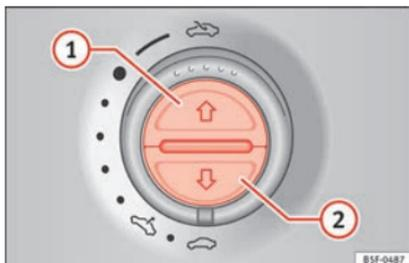

Fig. 138 On the interior roof lining: switches for the sun blind.
Opening completely (automatic function)	Press button » Fig. 138 ① briefly.
- The switch should be in the “closed position” » **📖** page 16 ①.
- *Panoramic sliding sunroof*: Within five seconds of triggering the anti-trap function, pull the control all the way back » **📖** page 16 (arrow ⑤) until the panoramic sliding sunroof closes fully.
- *Sun blind*: Within five seconds of triggering the anti-trap function, press button » **Fig. 138** ② until the sun blind closes fully.